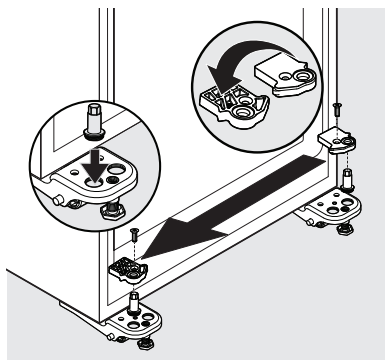

Figure 5
- Install the bottom hinge pin in the left hand hole of the left hand lower hinge (see Figure 5).
- Install the door stopper and screw it on top of the hinge pin (see Figure 5).